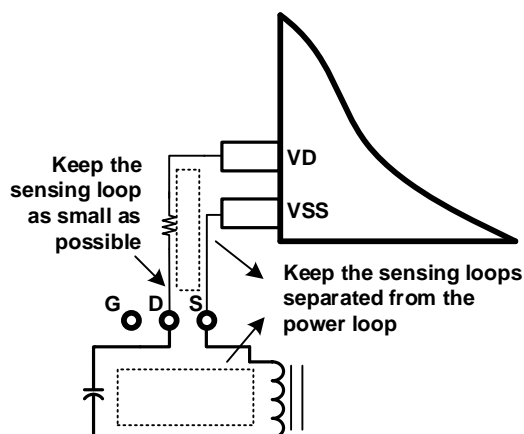
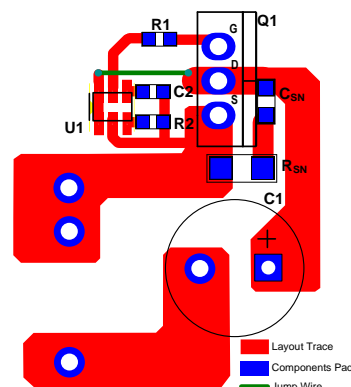

Figure 9: Voltage Sensing for VD/VSS
Figure 10: Layout Example with an SR MOSFET in a TO220 Package
Efficient PCB layout is critical for stable operation. For the best results, refer to Figure 9, Figure 10, and Figure 11, and follow the guidelines below:
3. Keep the IC out of the power loop to prevent the sensing loop and power loop from interrupting each other (see Figure 9).
Figure 10 shows a layout example of a 1-layer PCB with a through-hole transformer and an SR MOSFET in a TO220 package.  $R_{SN}$  and  $C_{SN}$  are the RC snubber network for the SR MOSFET. The sensing loop (VD and VSS to the SR MOSFET) is minimized and kept separate from the power loop. The VDD decoupling capacitor (C2) is placed beside VDD.